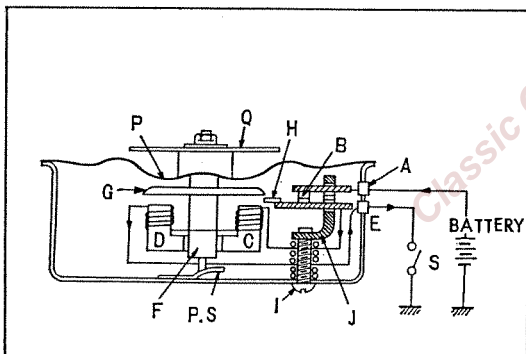

Fig. 5.91 Horn construction
There are three types of electrical diaphragm horns, flat, spiral, and long pipe types. The principle is the same in each horn. In Model CB 125 and CB 160, the spiral type horn is employed. (Refer to Fig. 5.91)
As shown in the figure, if the horn button switch (S) is closed, current is fed from terminal A to contact point B which excites electromagnet C and D and comes out at terminal E. Thus, it draws armature G and depresses insulator H by tripping contact point B and disconnecting at current C and D. Then, axis rod F to which G is installed is pushed up by plate spring P, and S closes again; current is fed.....the operation mentioned above is then repeated. As the result, diaphragm P and resonator Q, which support F vibrate and generate sound. Screw I adjusts volume. By turning the screw I the position of J supporting the contact points is vertically changed and the distance in which G moves is changed prior to the opening of contact point B. The amplitude of P and Q is changed and the sound volume is controlled (Refer to Fig. 5.91)